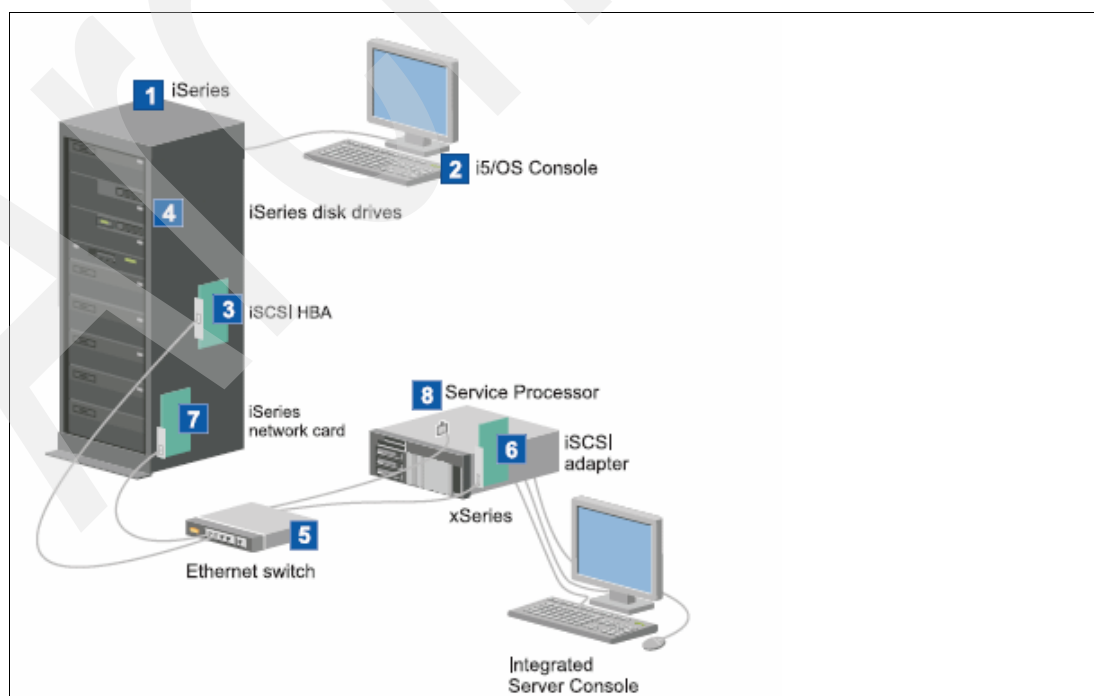

Figure 2-4 Basic iSCSI connectivity to System i5
The new industry standard iSCSI-based SAN implementation, as shown in Figure 2-4 on page 13, reduces the previous limitations on the number of servers that can be connected to System i5 and provides full BladeCenter connectivity. Therefore, it is better able to meet the SAN requirements of System i5 customers.
- ▶ The iSCSI network is a switched 1 Gb Ethernet network. Whether you are connecting xSeries server or BladeCenter to System i5, all iSCSI connections must go through a switch. In the case of xSeries, this must be an external 1 Gb switch as shown in Figure 2-4 on page 13. In the case of BladeCenter, the switch can be a 1 Gb switch module (or modules) in the BladeCenter itself, as shown in Figure 2-4 on page 13.
iSCSI attached servers are standard xSeries or BladeCenter server models that have processors, memory, and expansion cards, but no disks. All of the disk space is in the iSeries server and managed in the same way that IXS server and IXA server disk space is managed. The installation procedure for an iSCSI attached Windows server requires hardware to be installed and configured in the iSeries, xSeries, or BladeCenter servers. As with the IXA, the iSCSI HBA attached xSeries servers have their own expansion slots, so additional options can be installed to expand the capabilities of the server. Figure 2-4 illustrates a typical System i5 iSCSI network.
In Figure 2-4 on page 13, you see the following: